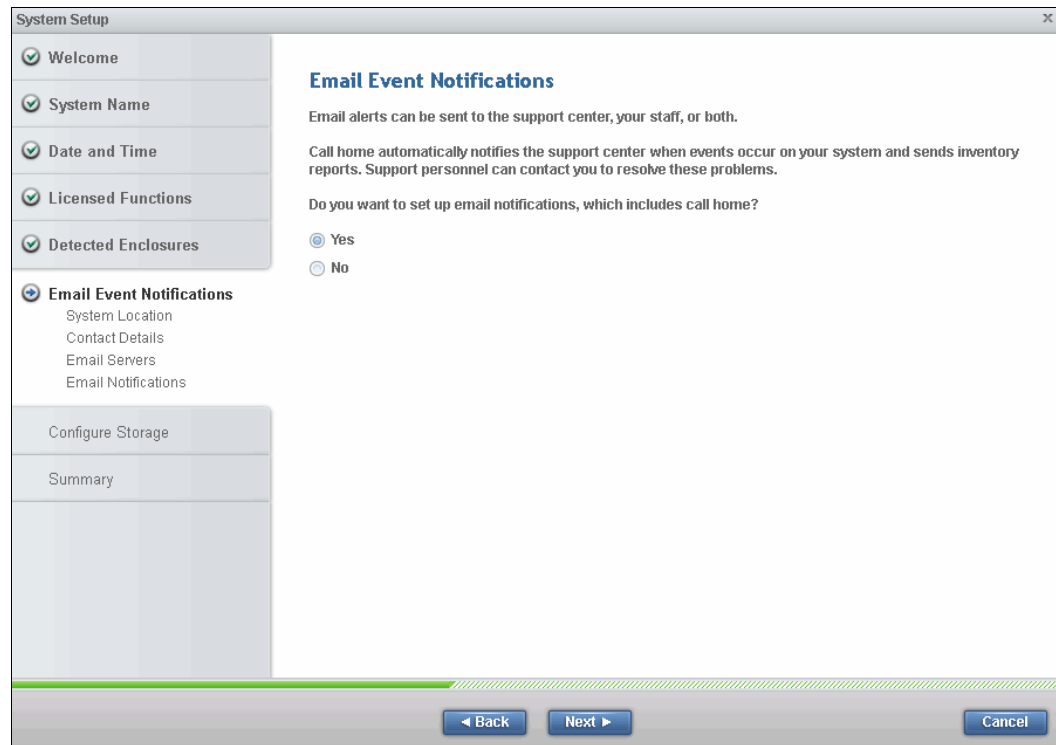

Figure 2-27 Call home setup
10. The next window in the initial system setup is setting up **Email Event Notifications**. Select **Yes** and click **Next** to set up email notification and call home, as shown in Figure 2-27.